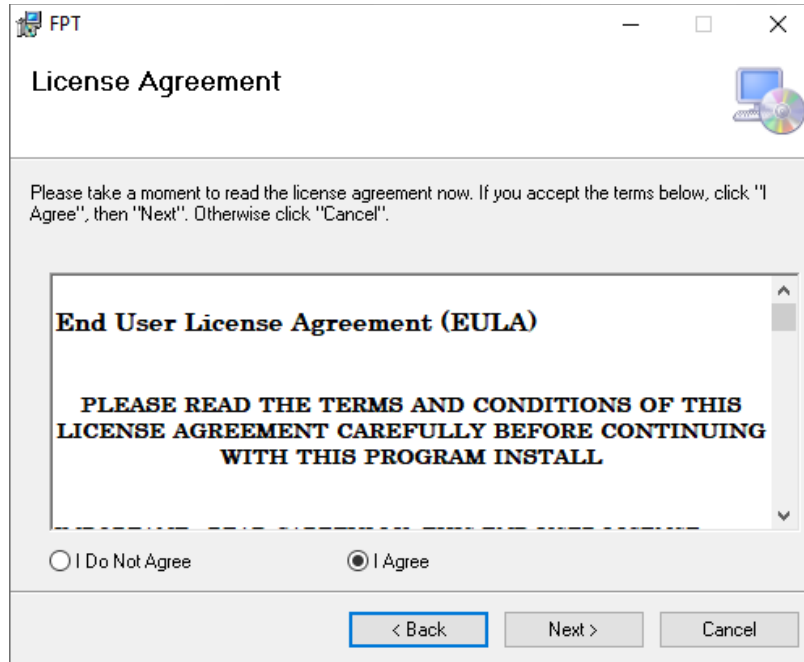

Figure 27 - FPT Installer
8. Please read through the End User License Agreement (Figure 27) then select **I Agree** then select **Next**.